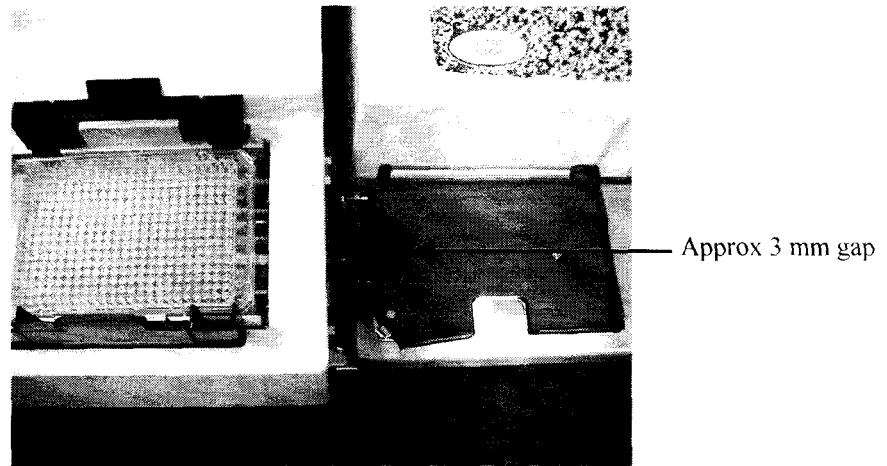

Figure 8 Alignment of extension to carriage/base plate
11. The END position for the **QFill2** carriage should be preset by Genetix so that it aligns with the manifold. The START position is preset by Genetix so that the gap between the base plate and the **QStacker** extension is about 3 mm (Figure 8).